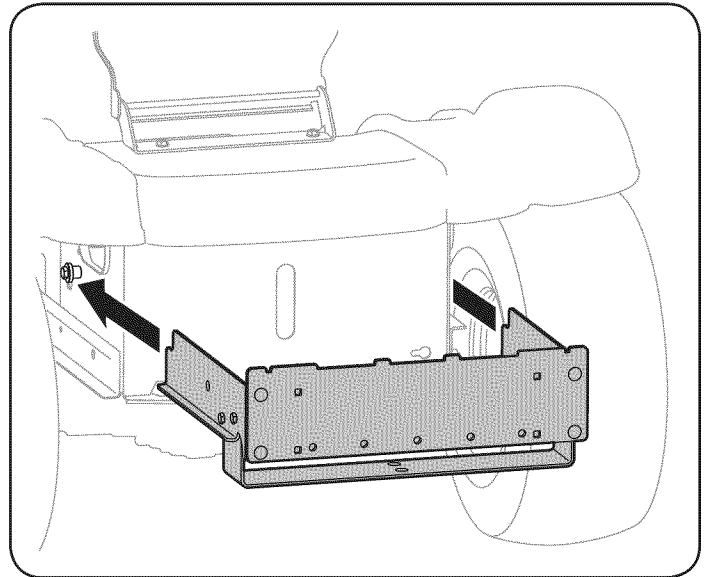

Figure 6
1. Slide the bagger mounting assembly along the top of the frame rails, as in Fig. 6, until the assembly hooks under the shoulder bolts on the tractor. At this point the hitch support hole on the mounting assembly and the hole on the tractor's hitch plate will line up.